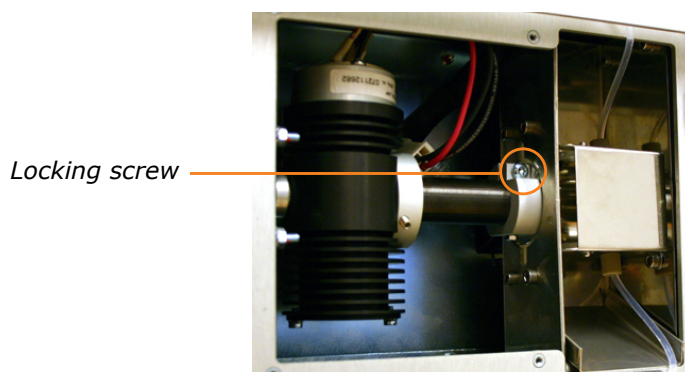

Figure 5-12. Loosen the Locking Screw (Fixed and Variable Detector Shown)
4. Loosen the screw locking the UV lamp in a vertical position (see Figure 5-12) using a Torx 20 screwdriver.